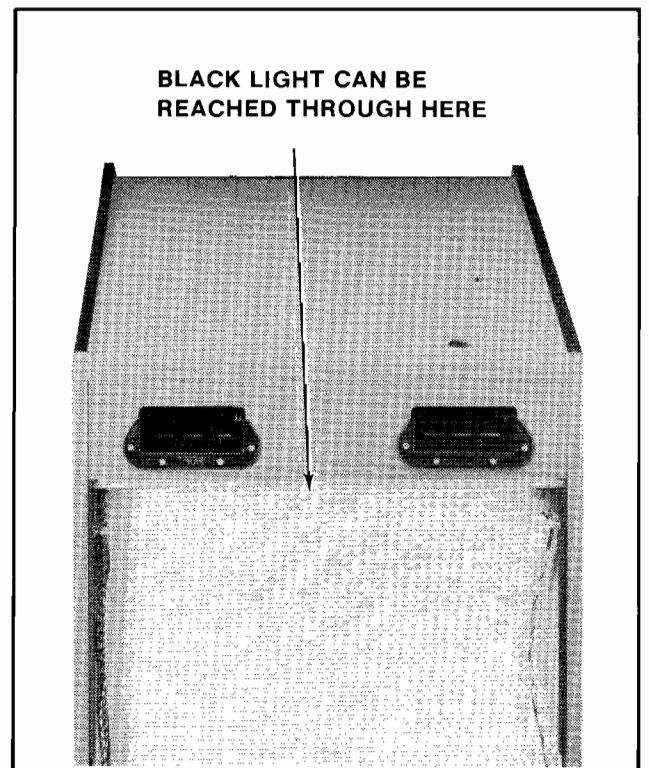

Figure 4-16 Replacing Black Light
- The ultraviolet light tube may be replaced at this time by removing the rear access door of the game and the back scenery panel if necessary. See Figure 4-16. BE CAREFUL NOT TO DROP IT.